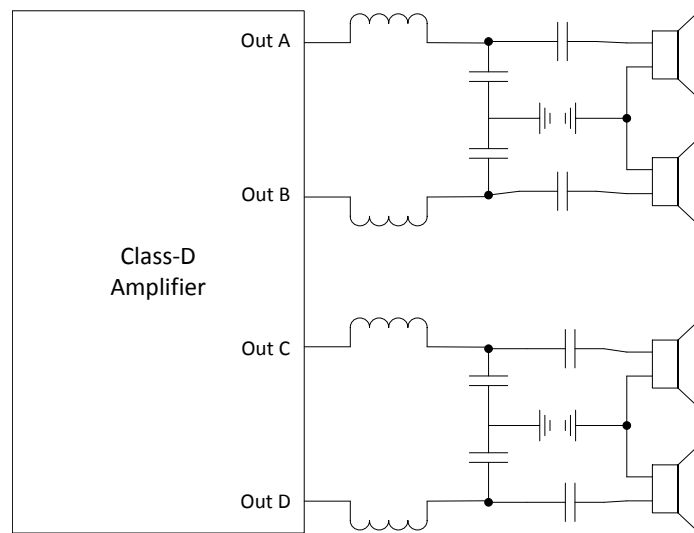

Figure 1-3. Four Single-Ended Outputs
1.1.3 Single-Ended (SE)
In a single-ended (SE) configuration, only one output is used to drive the load rather than a pair of outputs operating out of phase, as found in BTL and PBTL configurations. For this reason, only half of the Signal swing is available compared to BTL or a quarter of the total output power. However this configuration can allow for four channels with a single stereo BTL amplifier as shown in Figure 1-3. Some amplifiers like the TAS5827 also allow a combination of 1× BTL and 2× SE channels for support of 2.1 audio systems with a single device.